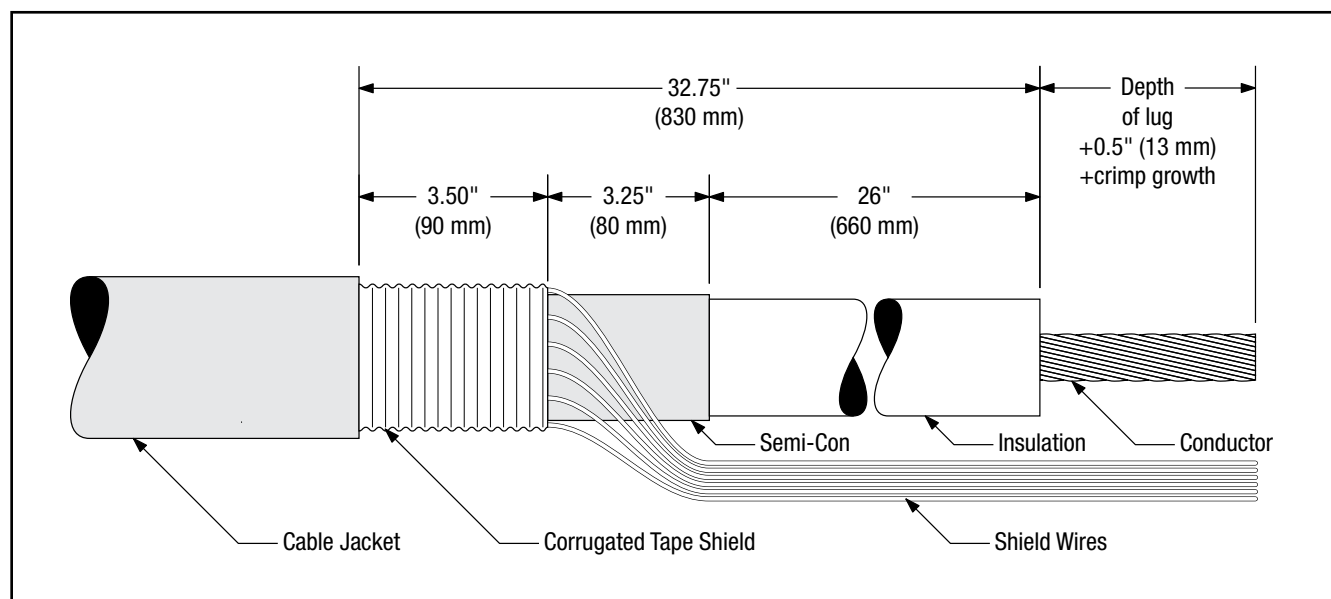

Figure 1
- 1.2 Prepare cable using dimensions shown in Figure 1. **BE SURE TO ALLOW FOR DEPTH OF TERMINAL LUG PLUS 0.5" (13 MM) PLUS CRIMP GROWTH.**